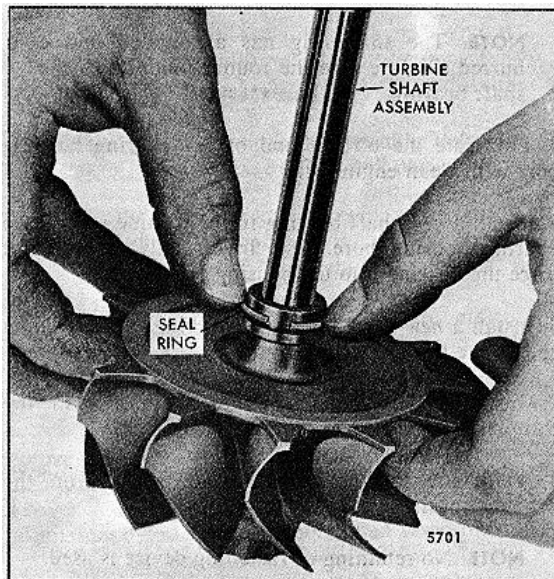

FIG. 14 - Installing Seal Ring on Turbine Shaft
1. Install a *new* turbine seal ring on the turbine wheel and shaft assembly. Use the thumbs only as shown in Fig. 14.